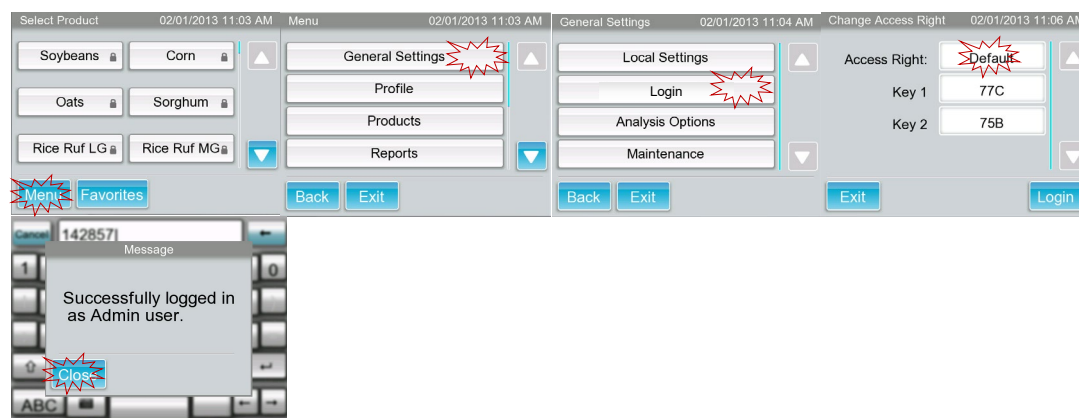

Figure 2A: select **Menu**; B: select **General Settings**; C: select **Login**; D: select **Default**; E: select **Close**.
- 8.4.1 Change the access level to Administrator (see Figures 2A-E).